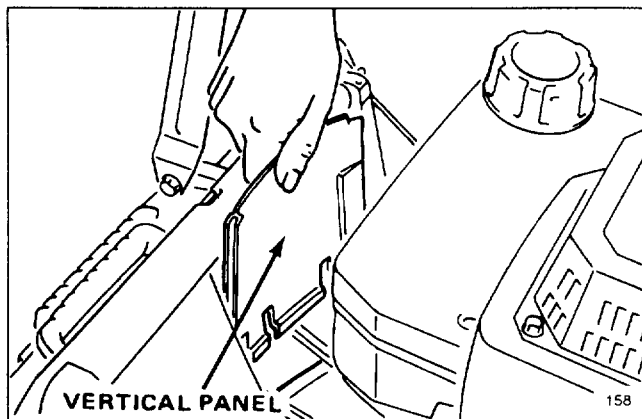

Figure 27
3. Remove the vertical panel in front of the transmission by pulling straight up (Fig. 27).